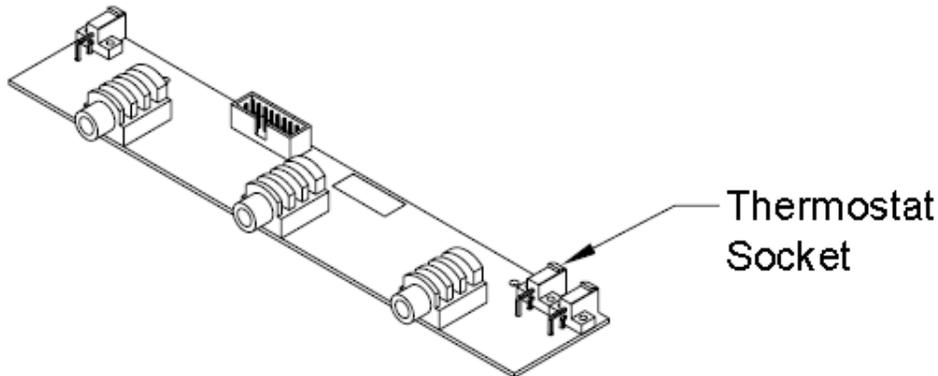

Figure 9-1: Thermostat Socket on Human Sensors Board
3. Connect the two-pin Molex connector marked with the label "GO" on the Thermostat Verification Tool to the Thermostat socket on the Human Sensors board (see Figure 9-1).